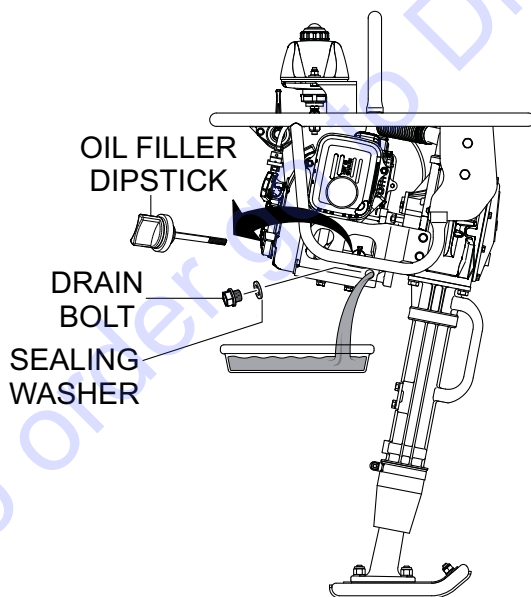

Figure 27. Draining Engine Oil
- Replace the engine oil (Figure 27) after the first 20 hours of use, then every 50 hours of operation.